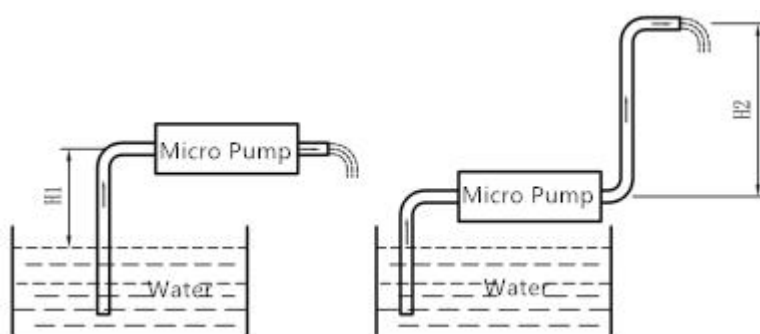

Figure 2-1 Suction/Pressure Height Schematic
2. The definition of the maximum suction height H1 and the maximum pressure height H2 is shown in Figure 2-1